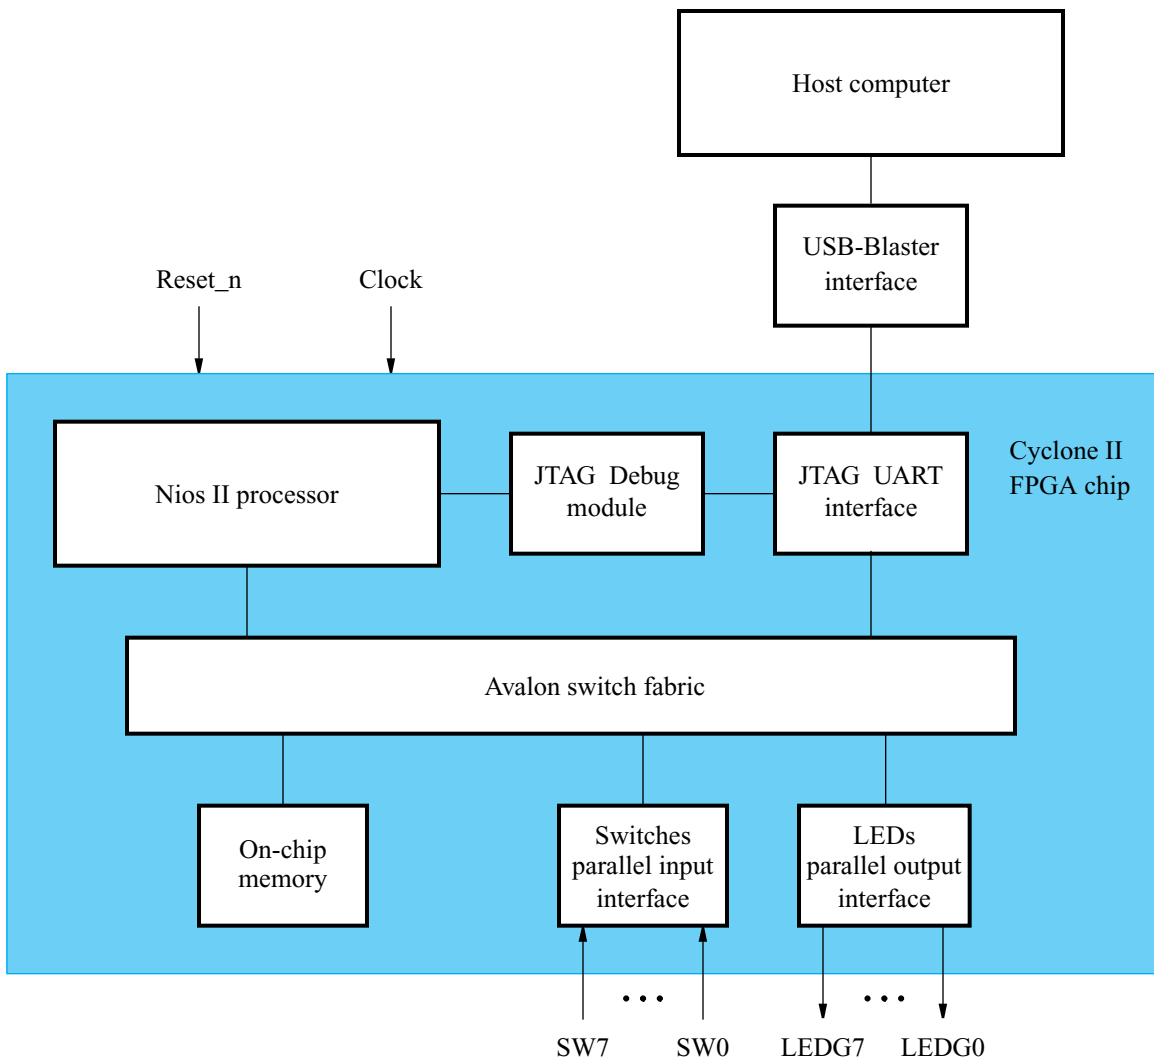
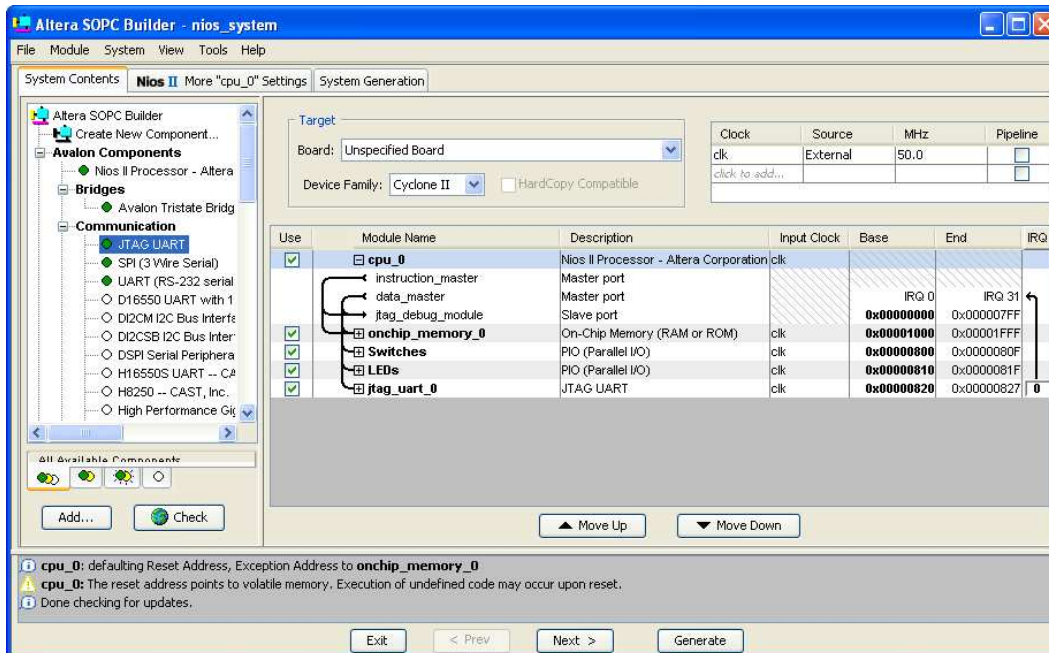

Figure 2. A simple example of a Nios II system.
Figure 13. The complete system.
Our example system is given in Figure 2. The system realizes a trivial task. Eight toggle switches on the DE2 board,  $SW7 - 0$ , are used to turn on or off the eight green LEDs,  $LEDG7 - 0$ . The switches are connected to the Nios II system by means of a parallel I/O interface configured to act as an input port. The LEDs are driven by the signals from another parallel I/O interface configured to act as an output port. To achieve the desired operation, the eight-bit pattern corresponding to the state of the switches has to be sent to the output port to activate the LEDs. This will be done by having the Nios II processor execute a program stored in the on-chip memory. Continuous operation is required, such that as the switches are toggled the lights change accordingly.
We will use the SOPC Builder to design the hardware depicted in Figure 2. Next, we will assign the Cyclone II pins to realize the connections between the parallel interfaces and the switches and LEDs which act as I/O devices. Then, we will configure the FPGA to implement the designed system. Finally, we will use the software tool called the *Nios II Debug Client* to assemble, download and execute a Nios II program that performs the desired task.
The SOPC Builder is a tool used in conjunction with the Quartus II CAD software. It allows the user to easily create a system based on the Nios II processor, by simply selecting the desired functional units and specifying their parameters. To implement the system in Figure 2, we have to instantiate the following functional units:
10. The complete system is depicted in Figure 13. Note that the SOPC Builder automatically chooses names for the various components. The names are not necessarily descriptive enough to be easily associated with the target design, but they can be changed. In Figure 2, we use the names Switches and LEDs for the parallel input and output interfaces, respectively. These names can be used in the implemented system. Right-click on the pio\_0 name and then select Rename. Change the name to Switches. Similarly, change pio\_1 to LEDs.